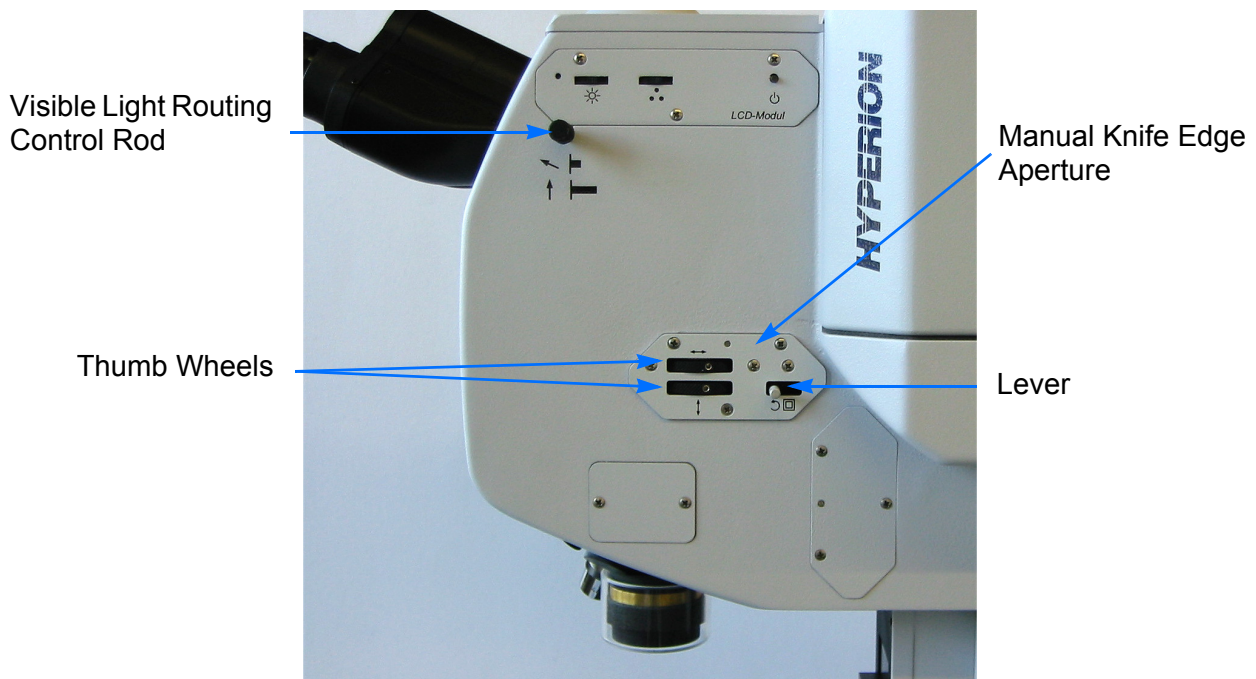

Figure 24: Non-validated Microscope
- In case of a **non-validated system**, define a measurement area of 100 x 100 micron using the manual knife-edge aperture. To do this, proceed as follows: Make sure that the knife edge aperture lever (figure 24) is in the rear position. While looking through the binocular, rotate one of the two thumb wheels (figure 24) to change the gap between the left and right knife edges.